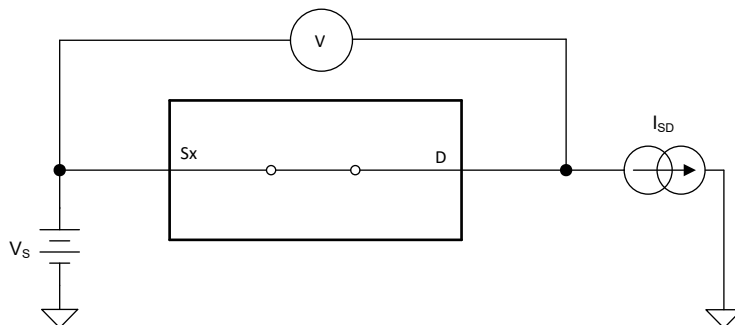

图 7-1. On-Resistance Measurement Setup
The on-resistance of a device is the ohmic resistance between the source (Sx) and drain (D) pins of the device. The on-resistance varies with input voltage and supply voltage. The symbol R_{ON} is used to denote on-resistance. The measurement setup used to measure R_{ON} is shown below. Voltage (V) and current (I_{SD}) are measured using this setup, and R_{ON} is computed as shown in 图 7-1 with $R_{ON} = V / I_{SD}$: